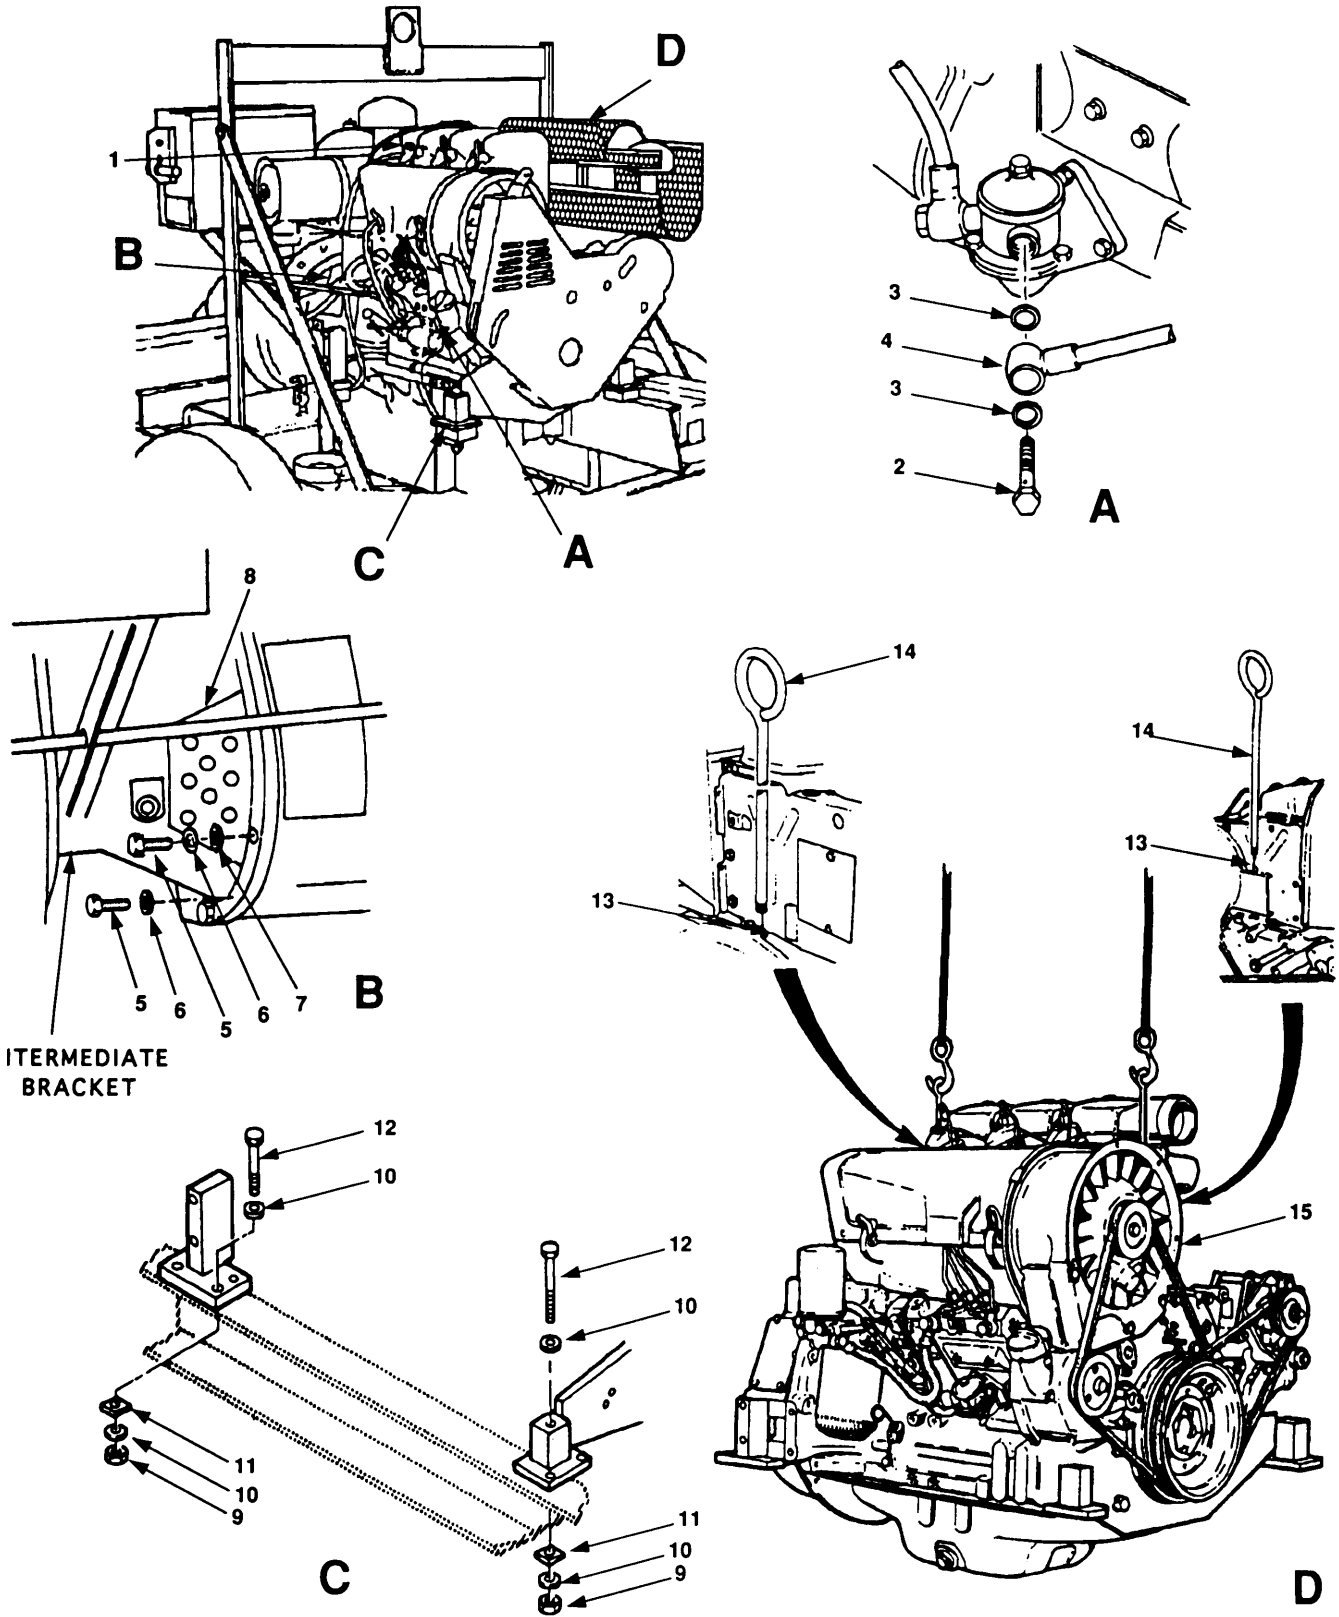

Figure 5-1. Engine Replacement.
- a. Disconnect overflow line (figure 5-1, 1) from injector nozzle to fuel tank.
- b. Remove banjo bolt (view A, 2), washers (3), and hose (4) from fuel pump. Cover hose and fuel pump port to prevent entrance of foreign material into fuel system.
- c. Remove twelve bolts (view B, 5) lockwashers (6), four washers (7) and two shields (8) .
- d. Remove six lock nuts (view C, 9), twelve washers (10), six beveled washers (11), and bolts (12) securing engine assembly to mounts.